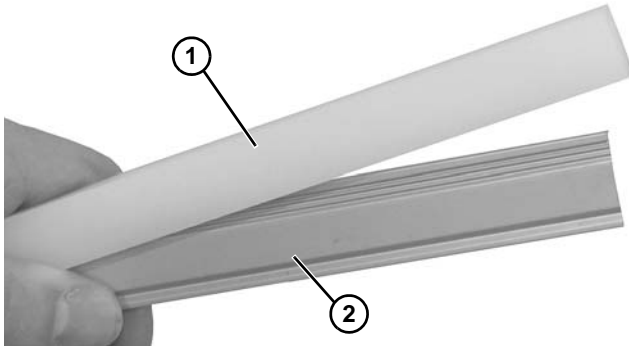

Figure 77
- Attach slide rail (**Figure 77, item 1**) to guiding (**Figure 77, item 2**).